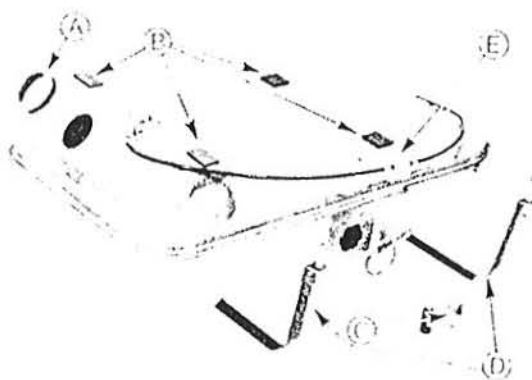

Fig. 3.23 Fuel tank components (Sec 13)
- 9 Before refitting the tank, ensure that the four insulator pads (B in Fig. 3.23) are stuck to the tank in the positions shown.